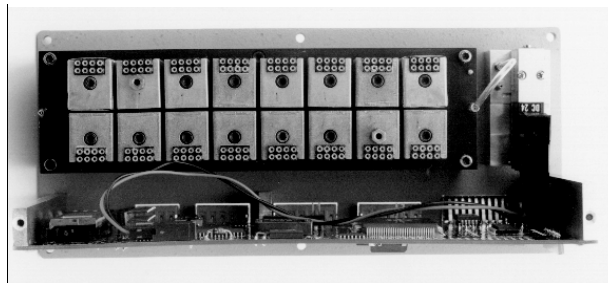

Figure 5.5
- (1) Disassemble the module as described in **Section 5.1.2**.
- (2) Carefully remove the two (2) Phillips-head screws from the top of the solenoid. Disconnect the solenoid from connector P6 of the PC-280 CPU board. See **Figure 5.5**.
- (3) If either the new or old solenoid does not have a pluggable wiring harness at the solenoid, the new solenoid wires will require crimp pins to be installed for insertion in the P6 mating housing. The proper crimp pin is Molex part number 08-56-0110. After installing the crimp pins to the solenoid wiring, remove the old crimp pins from the Molex P6 housing and insert the new solenoid's wiring. Ensure that the new wires are installed in the same position as the old wires.